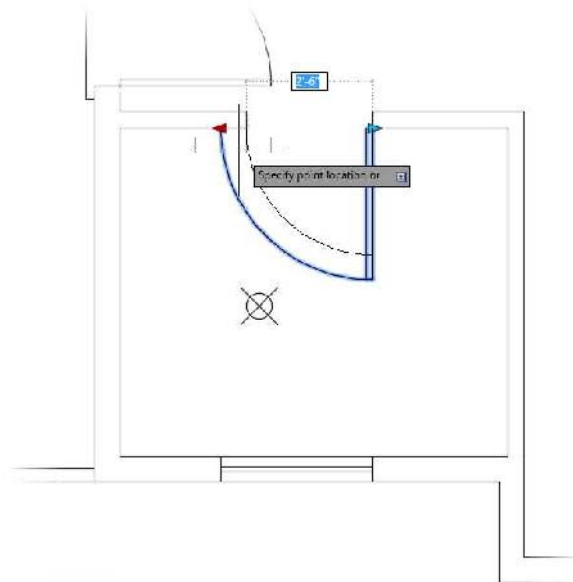

FIGURE 9.56: Resizing the dynamic block
19. Select the left arrow and drag it up to the corner of the opening. Notice how the length of the door changes as well (see Figure 9.56).